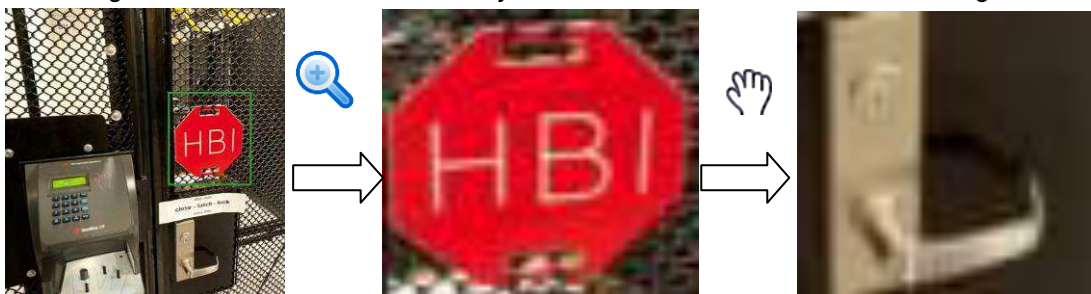

Figure 4-34
- Drag the mouse to select a zone, you can view an interface show as Figure 4-34.